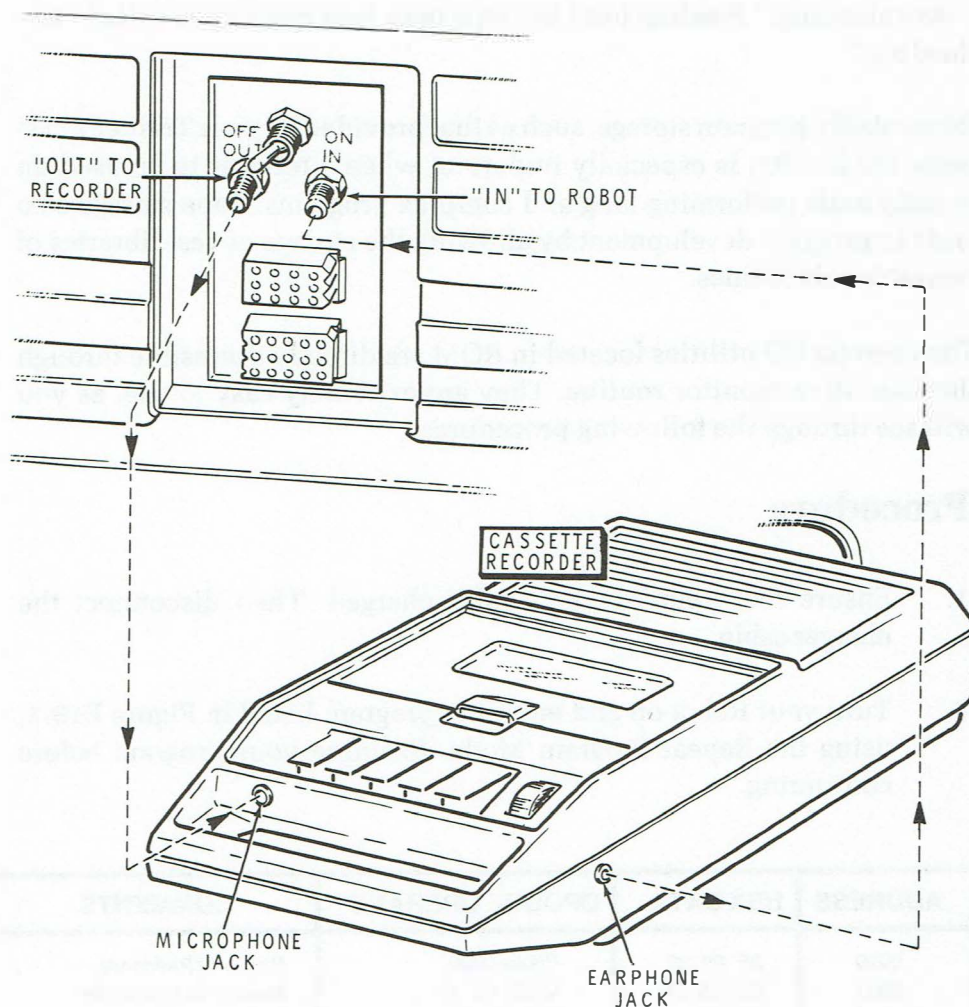

Figure E18-2
4. Without turning the Trainer off, connect a cassette recorder to the Trainer's rear panel audio input/output jacks. Use Figure E18-2 as a guide.